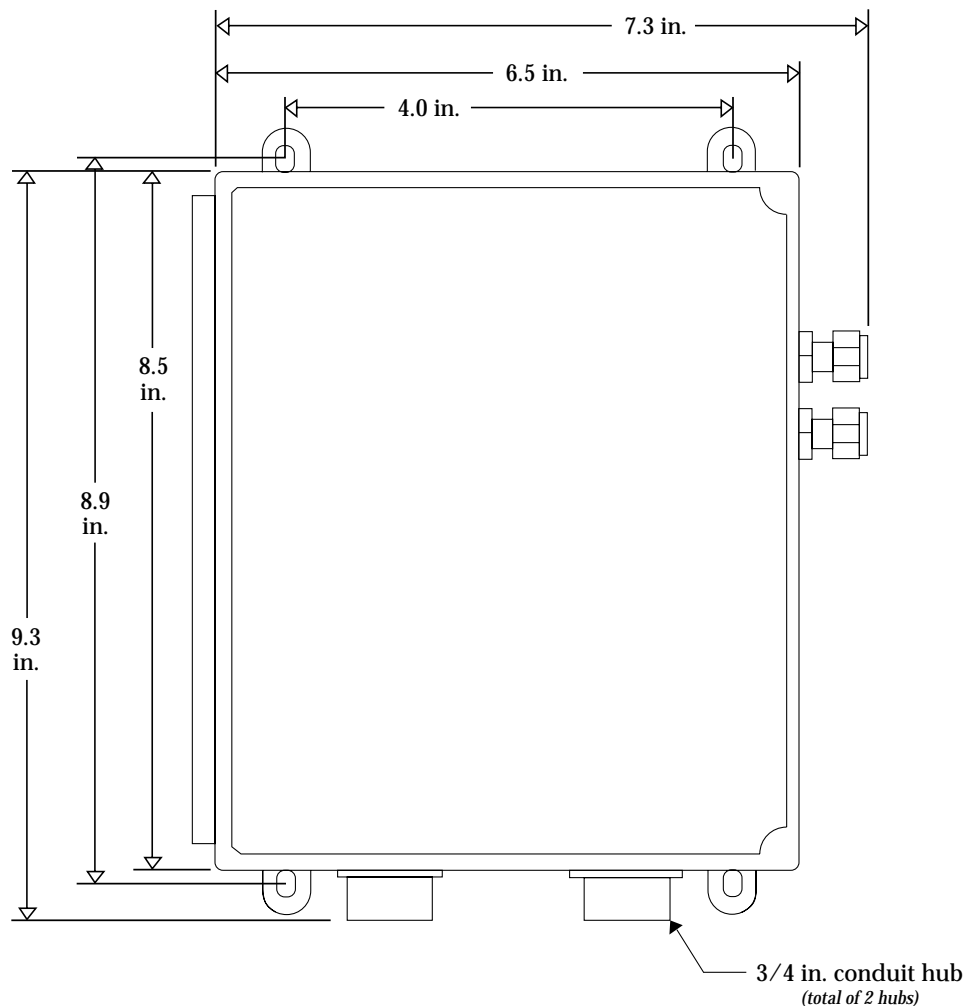

Figure 3: Mounting the Sample-Draw Oxygen Detector
3. Slightly loosen the screw that secures the mounting foot to the housing, then rotate the mounting foot 180 degrees (see Figure 3).